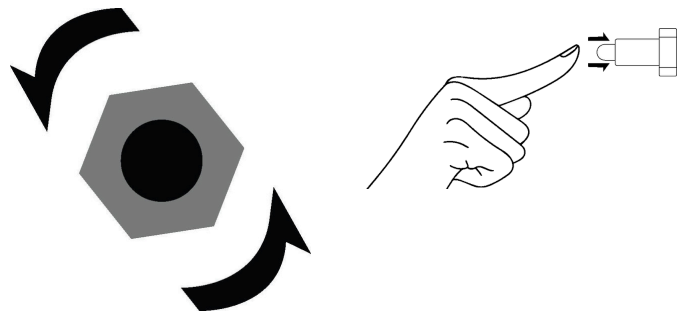

Fig 3.
- Once the cabinet has cooled down, turn the knob anti-clockwise (**Fig 3**).